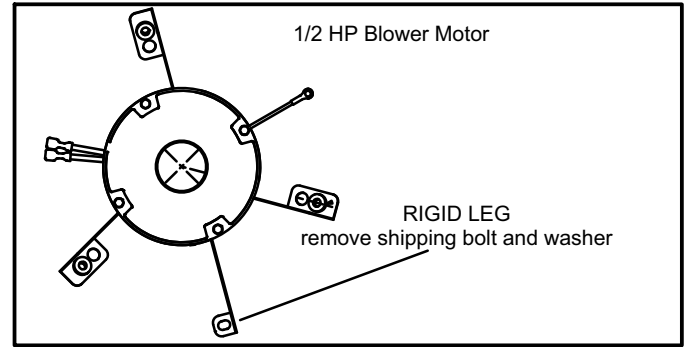

FIGURE 7
*NOTE - Units with 1/2 hp blower motors are equipped with three flexible legs and one rigid leg. See figure 7. The rigid leg is equipped with a shipping bolt and a flat white plastic washer (rather than the rubber mounting grommet used with a flexible mounting leg). **The bolt and washer must be removed before the furnace is placed into operation.** After the bolt and washer have been removed, the rigid leg will not touch the blower housing.*